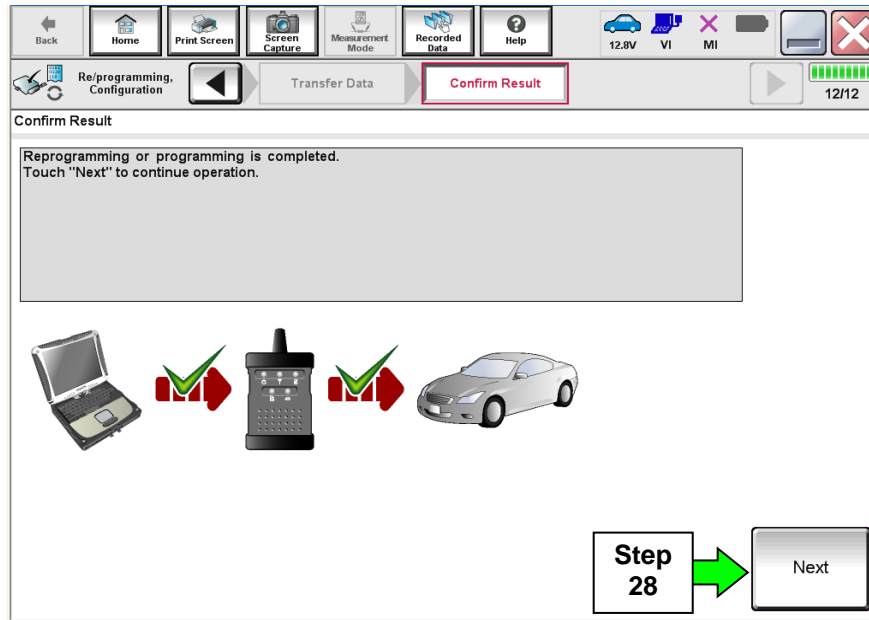

Figure 18A
26. When the screen in Figure 18A displays, reprogramming is complete.
**NOTE:** If the screen in Figure 18A does not display (indicating that reprogramming did not complete), refer to **TCM Recovery** on the next page.